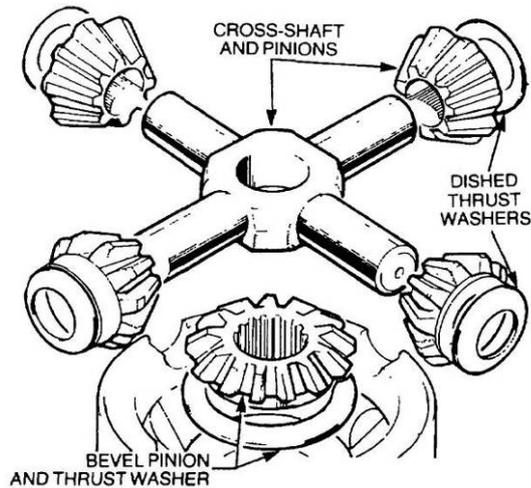

Figure 233 Disassembly of the Cross-shaft
- c. Lift off the bevel pinion and thrust washer and remove the cross-shaft and pinions. Remove the four dished thrust washers and pinions from the cross-shaft (Figure 233). Lift out the remaining bevel pinion and discard the thrust washers.